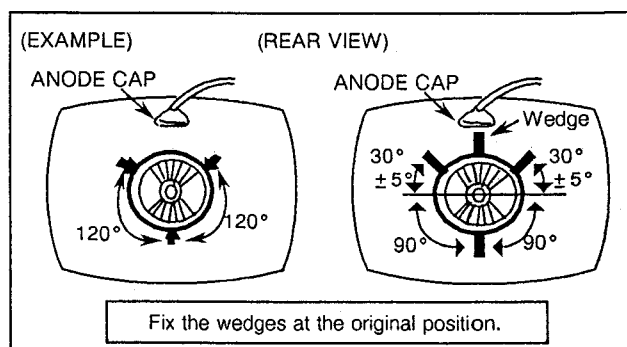

Fig. B-10
9. Insert wedges to the position as shown in Fig. B-10 to obtain the best circumference convergence.